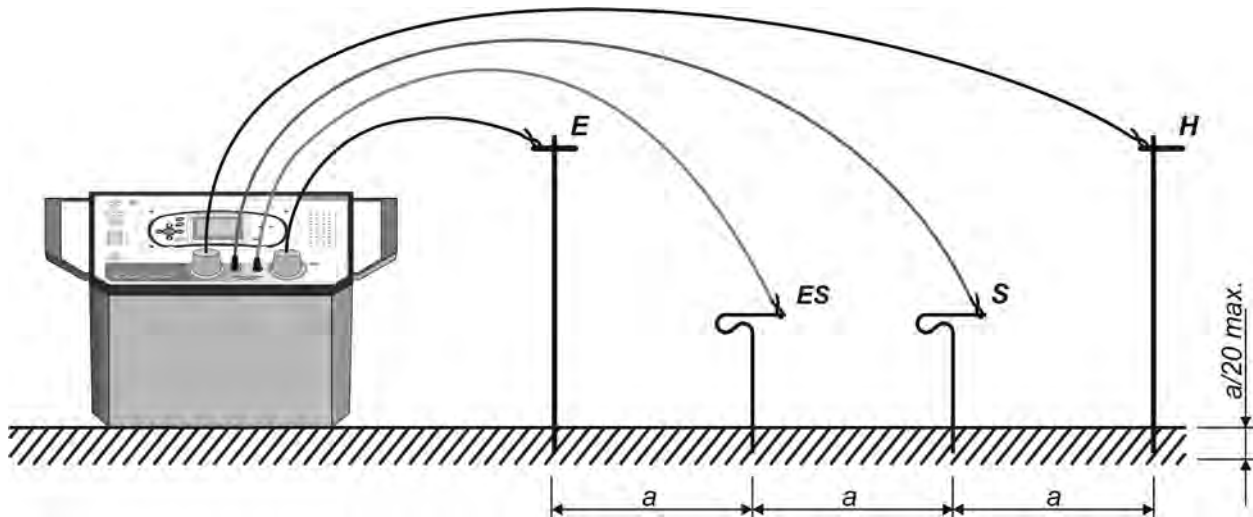

Fig. 27: Connection of the unit for ground resistance measurement
For the ground resistivity measurement the test current is injected through two current probes (C1/H and C2/E). The voltage probes S and ES must be placed between the current probes (equidistance 'a' between probes must be considered). Using different distances between the test probes means that the material is measured at different depths. By increasing the distance 'a' a deeper layer of ground material is measured (see Fig. 27)
- 4 Fit the auxiliary test probes at the same distance "a" set on the station unit and connect the input terminals C1/H, C2/E (current probes), ES and S (voltage probes) to the earth system under test by using the cables supplied as accessories (see Fig. 27)